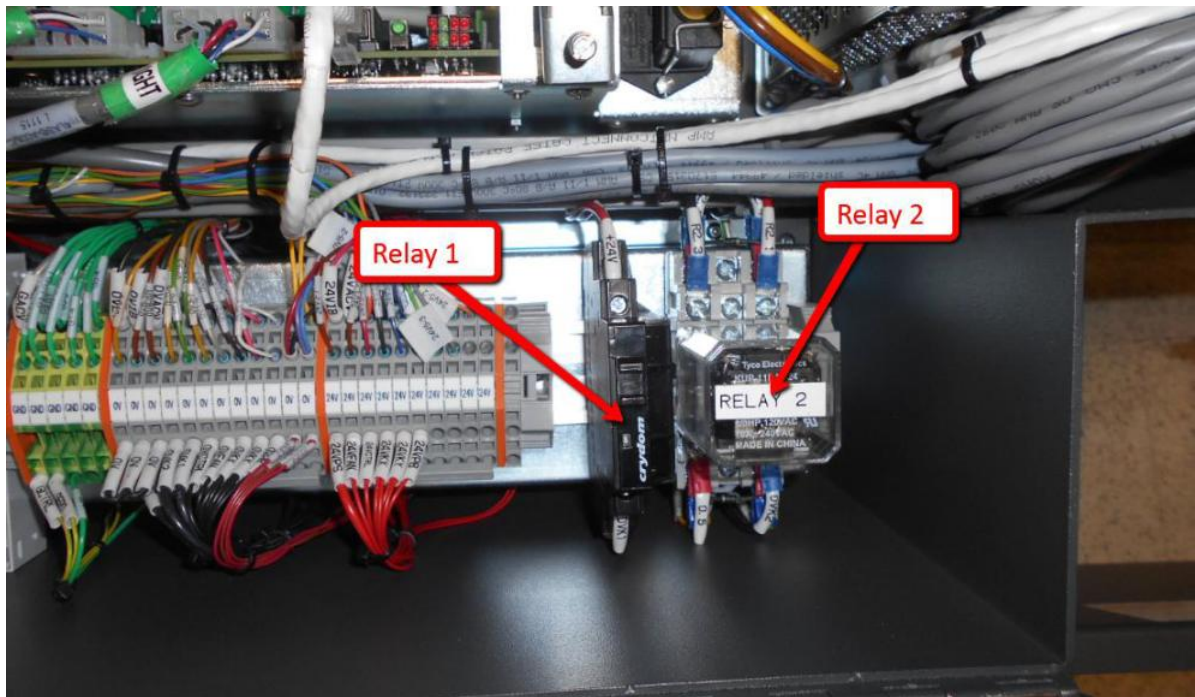

Figure 4 Relay 1 & Relay 2
4. Extend SSCA Support Rod which locate underneath of SSCA as below Figure 4